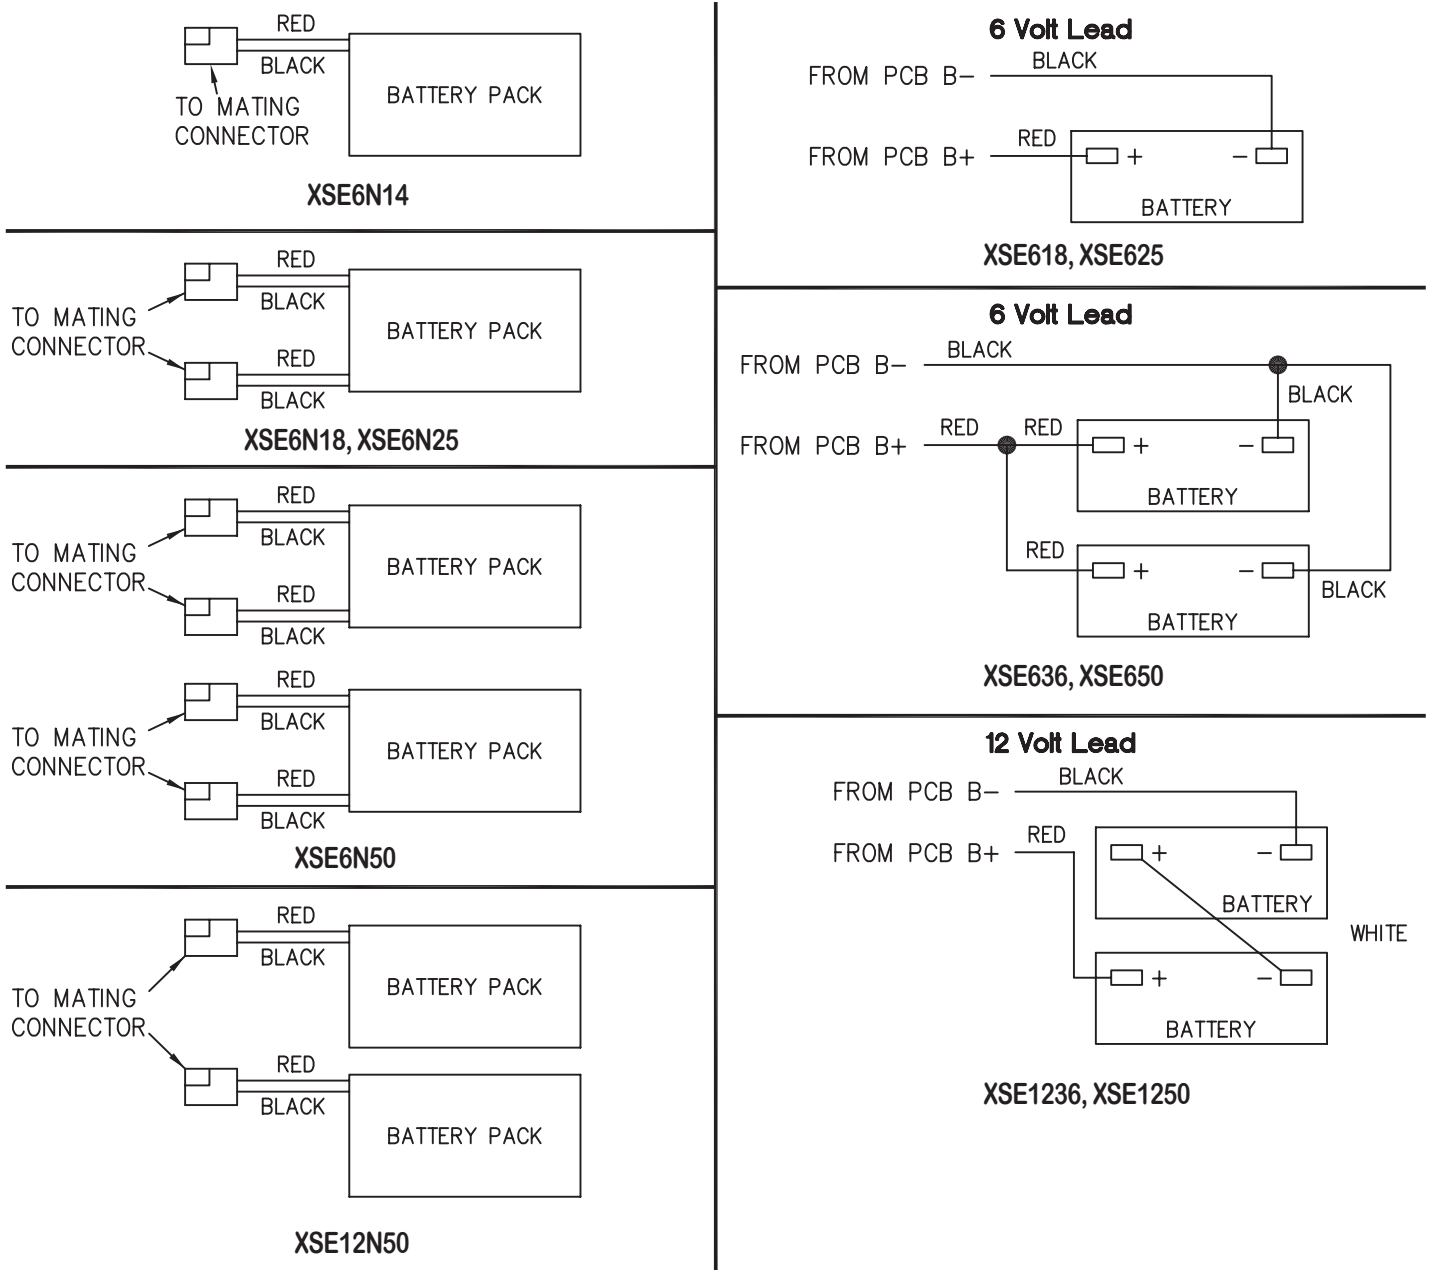

FIGURE 4
10. Make battery connections at this time. (For appropriate battery(ies) hookup configuration see Fig. 4 on page 3).